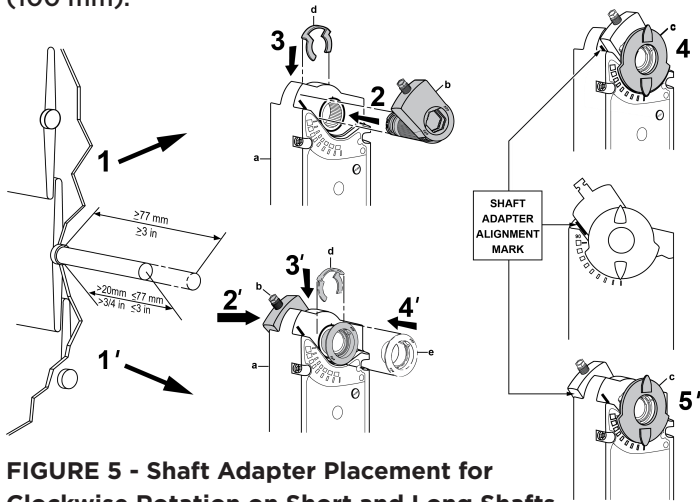
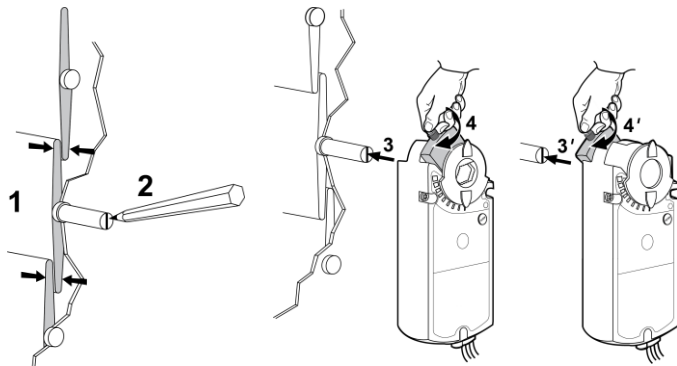
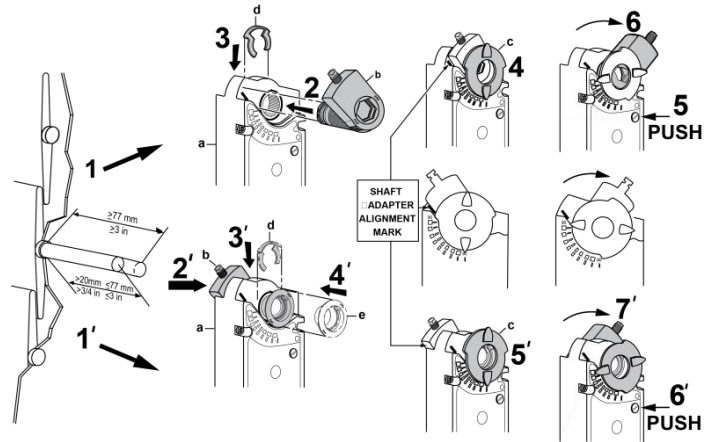
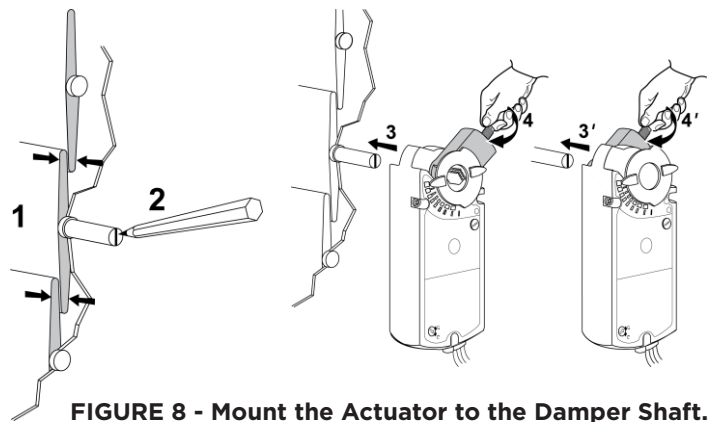

FIGURE 5 - Shaft Adapter Placement for Clockwise Rotation on Short and Long Shafts.
FIGURE 6 - Mount the Actuator to the Damper Shaft. Go to Figure 9 to Complete the Mounting.
FIGURE 7 - Shaft Adapter Placement for Counterclockwise Rotation on Short and Long Shafts.
FIGURE 8 - Mount the Actuator to the Damper Shaft.
3. For all models: See Figure 5 and Figure 6 for clockwise-to-open (CW) installation. See Figure 7 and Figure 8 for counterclockwise-to-open (CCW) installation.